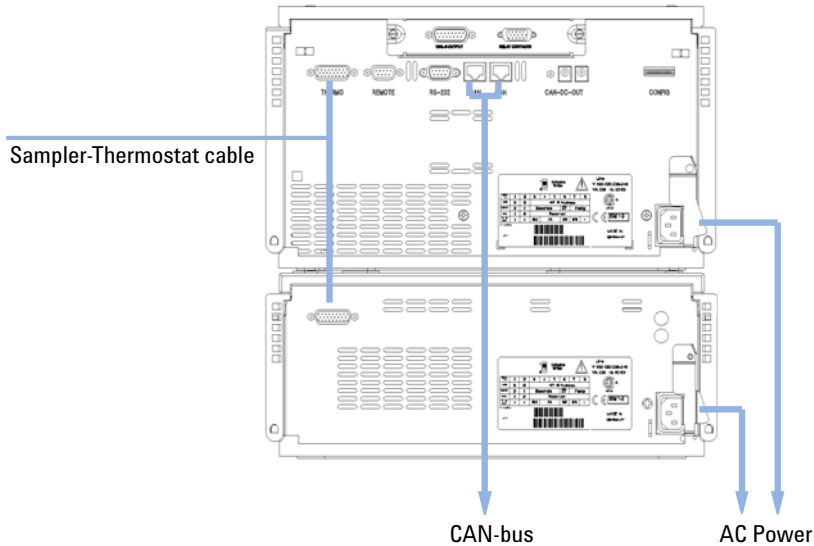

Figure 17 Connection at the rear of thermostatted Autosampler
- 13 Connect the cable between the sampler and the thermostat, see Figure 17 on page 51.